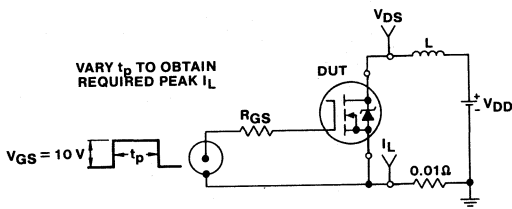

Figure 14 - Unclamped energy test circuit.
*VDD = 25 V, starting Tj = 25°C, L = 440 μH, Rgs = 50 Ω, Ipeak = 28 A, see figure 14 & 15.